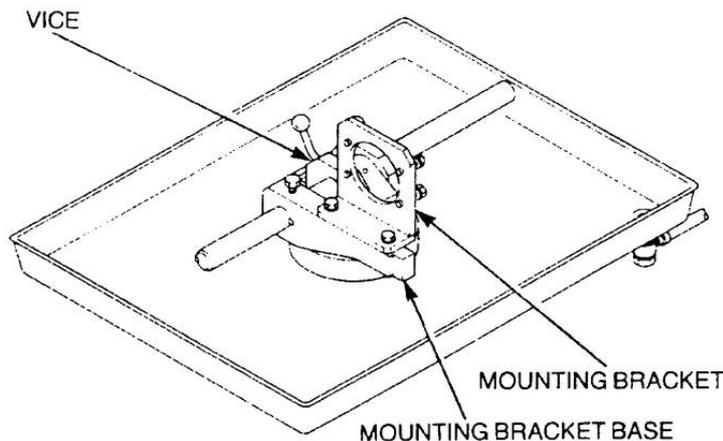

Figure 85 Universal Vice and Bracket Assembly
- e. Install mounting bracket base, special tool 157944-8720, onto the universal vice, special tool 157944-8520. Attach the injection pump mounting bracket, special tool 157944-7820, onto the mounting bracket base and secure it with two bolts (Figure 85).